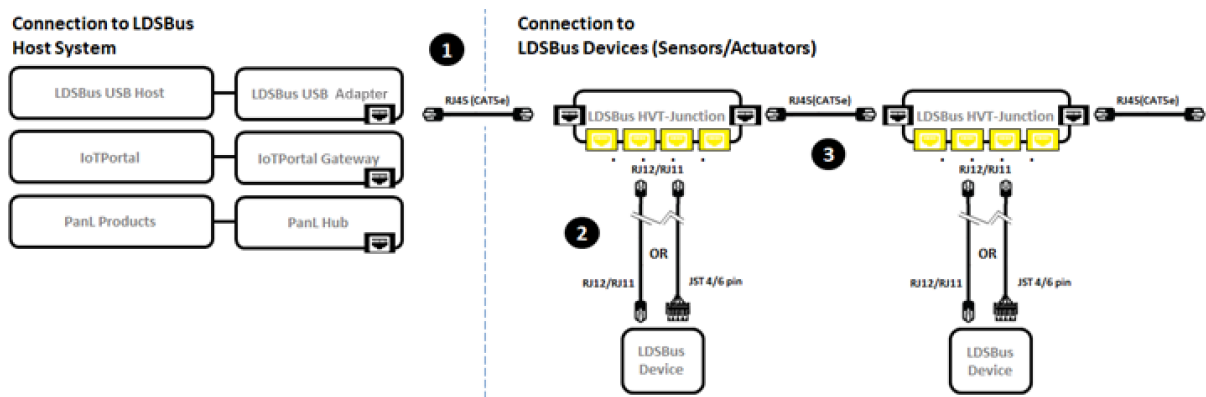

Figure 2 - LDSBus Trailing Edge Light Dimmer - Connection Diagram
Figure 2 illustrates the connection of the LDSBus Trailing Edge Light Dimmer (LDSBus Device) to the LDSBus. Please visit <https://brtsys.com/resources> to view the full device application, setup and installation guides.
2. Connect the configured LDSBus Trailing Edge Light Dimmer to the LDSBus HVT-Junction as shown in Figure 2.
3. If there is more than one LDSBus HVT-Junction, chain them together as shown in Figure 2.